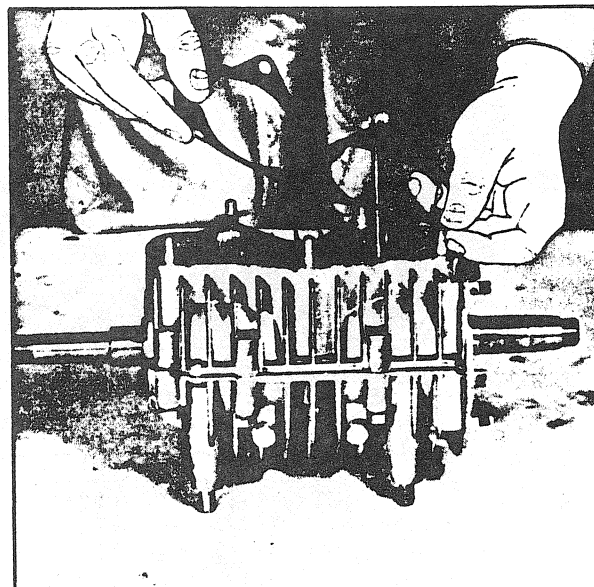

FIGURE 32
- Install a new cylinder block gasket (fig. 32).